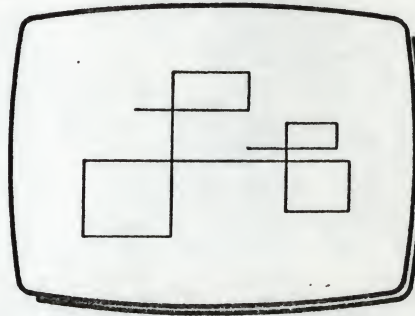

Fig 3
- 6 Draw a number of lines and boxes as in Fig 3. They are all perfectly right angled, which is a very useful feature, don't worry if the joins are not exact - there is another lock function for this.